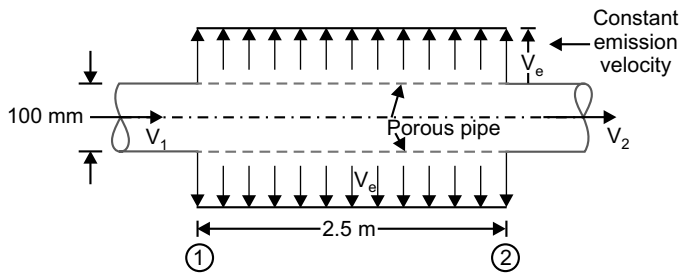

Fig. 9
Q. 9. A circular pipe 100 mm in diameter has a 2.5 m length which is porous. In this porous section the velocity of exit is known to be constant (Fig. 9). If the velocities at inlet and outlet of the porous section are 1.8 m/s and 1.1 m/s respectively, calculate :